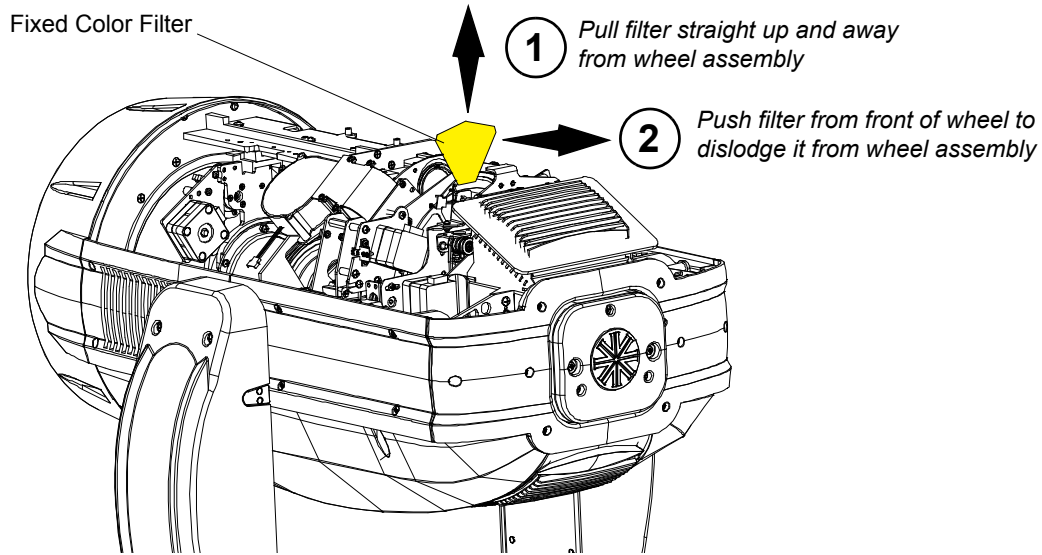

Figure 2-5: Removing Fixed Color Filters
- Step 4. At fixed color wheel, slowly rotate wheel by hand until filter to be removed is visible on assembly as shown in Figure 2-5.
- Step 5. At filter to be removed, (1) press filter out of fixed color wheel with fingers and (2) guide filter up and away from fixed color wheel.